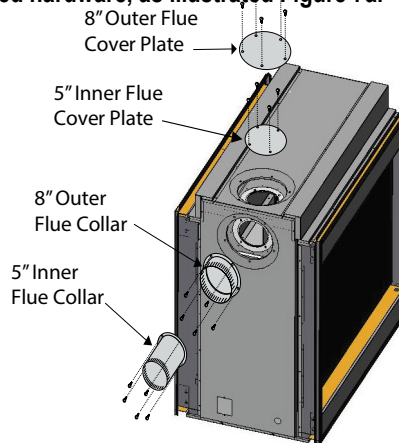

Figure 7a. Flue cover and collar installation, Side Vented fireplace.
as illustrated Figure 7a.
4. Install the (5" and 8") collars to the Side vent outlet using the included hardware, as illustrated Figure 7a.